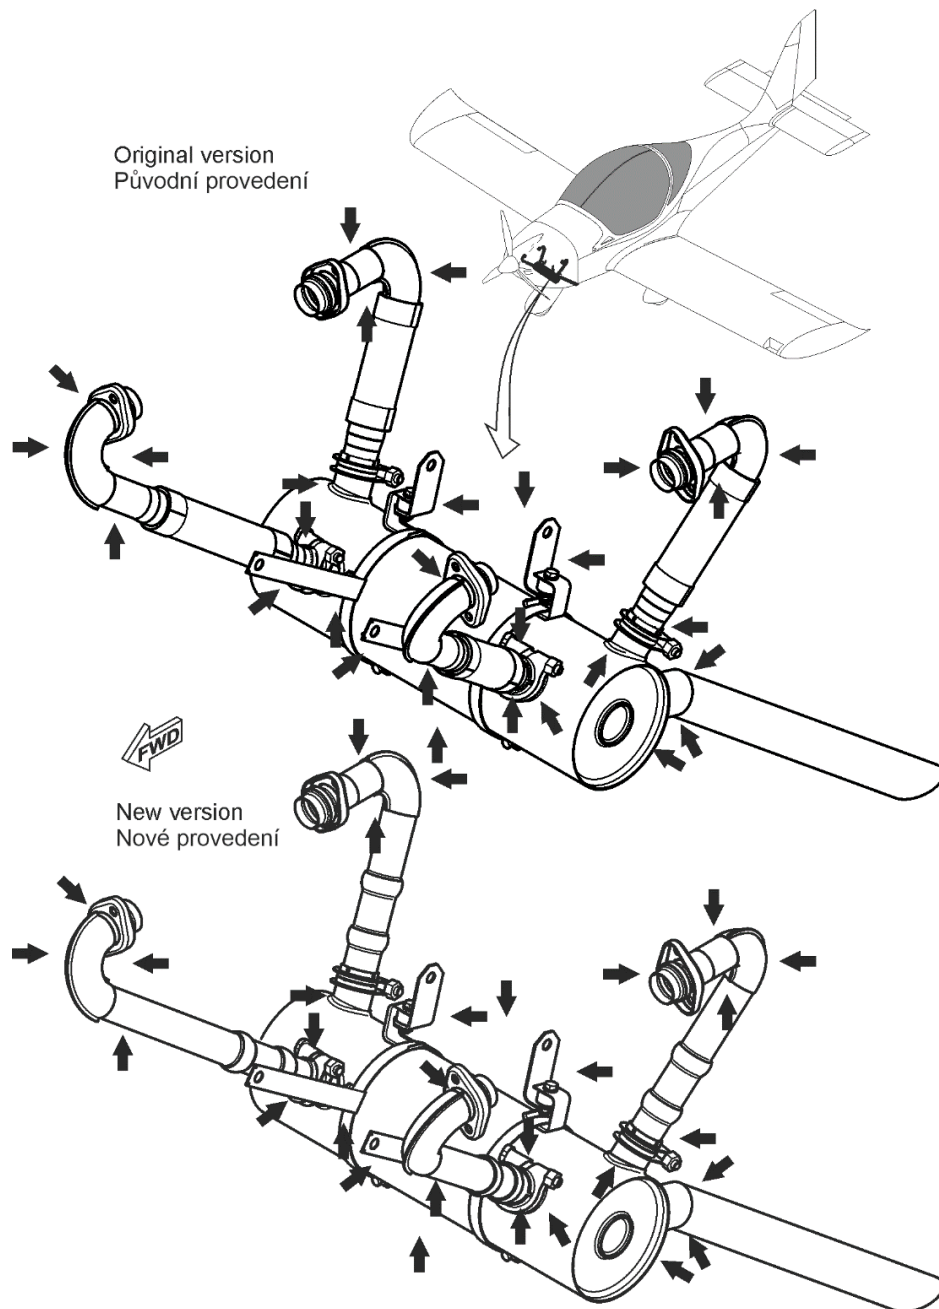

Fig. 1 Checked exhaust system locations.
1.3.2 Inspect the entire exhaust system, focusing on the formation of cracks on the individual exhaust manifolds, the outer surface of the muffler and the exhaust outlet pipe – see Fig.1.
Next, inspect the exhaust mounting brackets and brackets – see Fig.1.